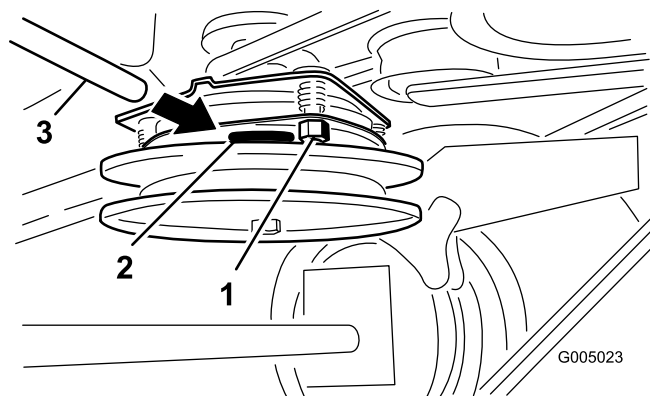

Figure 47
2. Tighten the locknuts until there is slight binding on the feeler gauge but it can be moved easily within the air gap (Figure 47).